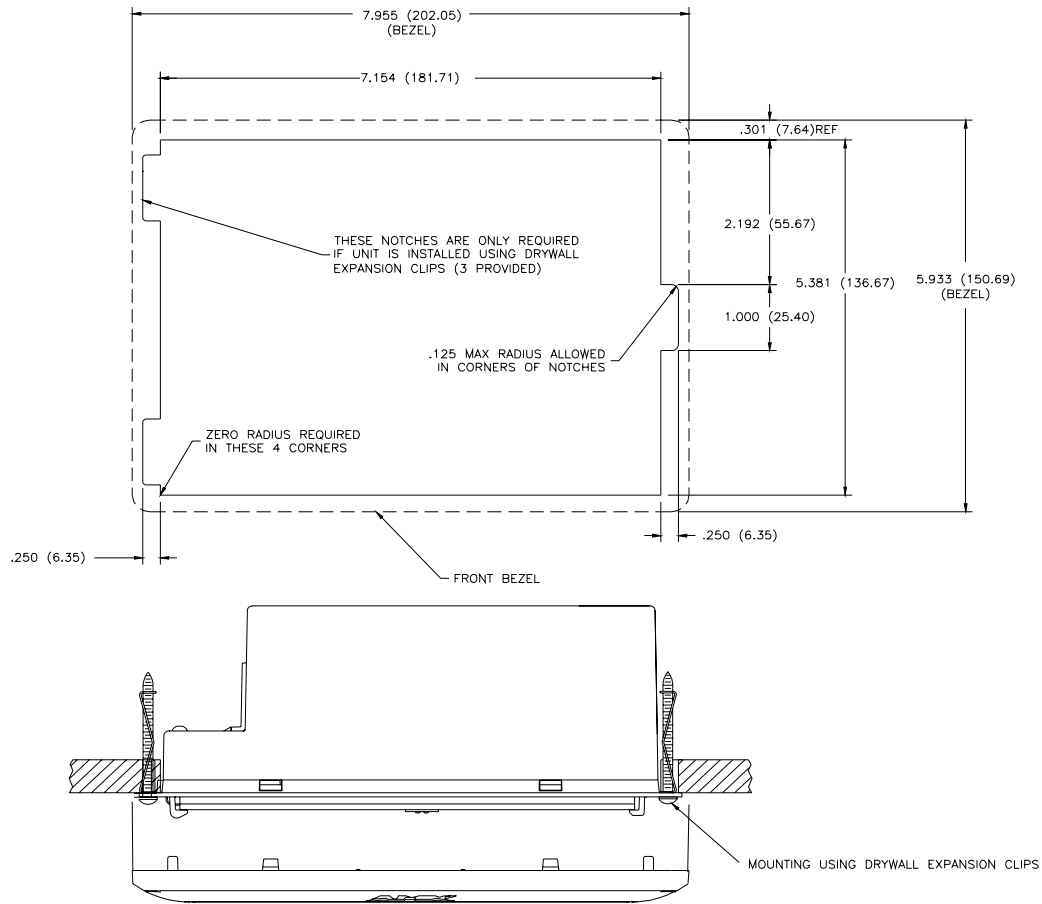

FIG. 38 NXD-CV7 Wall Mount panel dimensions using expansion clips
- Refer to **SP-2258-01** for detailed installation dimensions (reproduced in FIG. 38).
2. Cut out the surface for the NXD Wall Mount unit using the dimensions shown in FIG. 38. Be sure to cut out the three notches along the sides to accommodate the three corresponding drywall expansion clips (included).